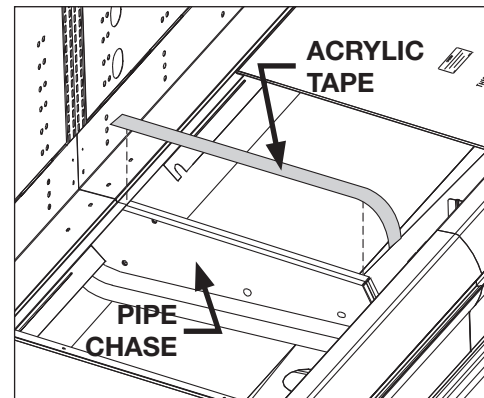

Fig. 1 Sealing the pipe chase
3. Seal the joints along the pipe-chase seam with the caulk provided, then apply acrylic tape (supplied) over the pipe-chase seam (see Fig. 1). The tape acts as a watershed preventing water from settling in case joint.